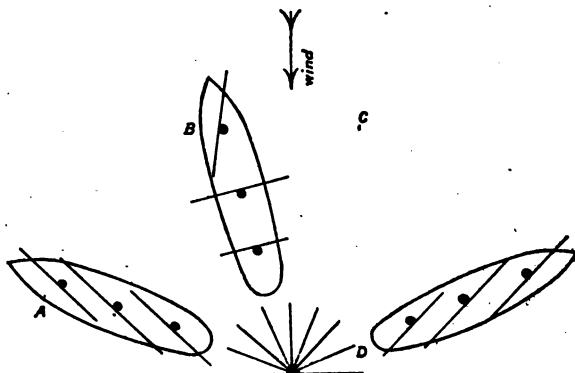

FIG. 33.—TACKING.
Having called "*All hands*" and hauled up the cross-jack (and hauled down stays'ls—except foretop-mast stays'l if set) with the watch on deck, who also see all ropes clear for running, haul taut the lee lower lifts and let go weather ones; give the order "*Ready about,*" when everybody will fall into their stations. Keep her full for stays (Fig. 33 A), so as to have good way on the ship, then put the helm down, giving at the same time the order "*Hard a-lee,*" haul the spanker boom amidships, fore-sheet and head-sheets will then be slacked off, and the ship come rapidly up in the wind. Directly the square sails shiver, give the order "*Tacks and sheets*"; the clews of the courses are lifted, to keep them clear of the rail, when swinging the yards, the bowlines remaining fast until the braces are let go. As soon as she comes up to within a point or a point and a half of the wind (B) give the order "*Mains'l haul*" (if the mains'l is hauled up the order is "*Main-tops'l haul*"), when the after-yards are braced round and sharp up on the new tack. When the wind comes on the other bow (the vessel's head being then at C), the head-sheets are hauled over and hauled aft ready for the new tack. As soon as the wind is about six points on the other bow, as at D, give the order "*Fore-bowline, let go and haul,*" when the port head-braces being let go, the fore-yards will fly round on the new tack and the yards be easily trimmed. Tacks (the main tack can be boarded and the sheet got aft if smartly done